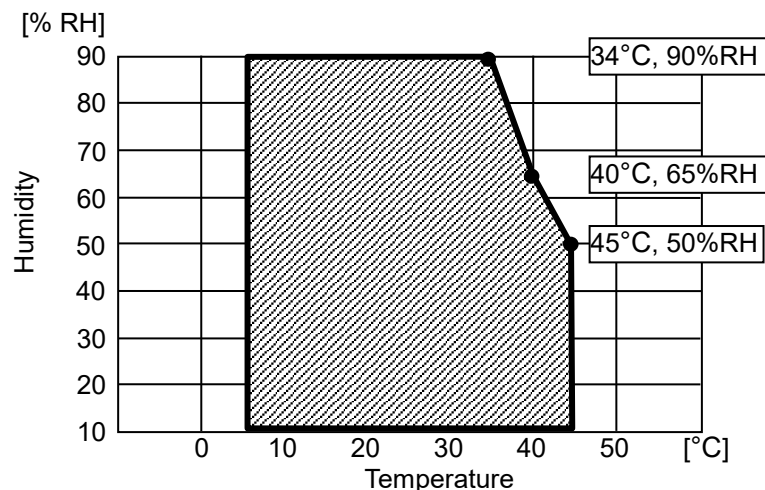

Figure 18-1 Operating Temperature and Humidity Range
*3: The guaranteed humidity at each temperature is within the range shown in Figure 18-1.